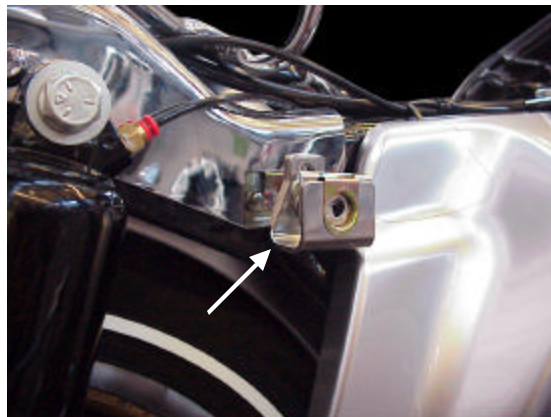
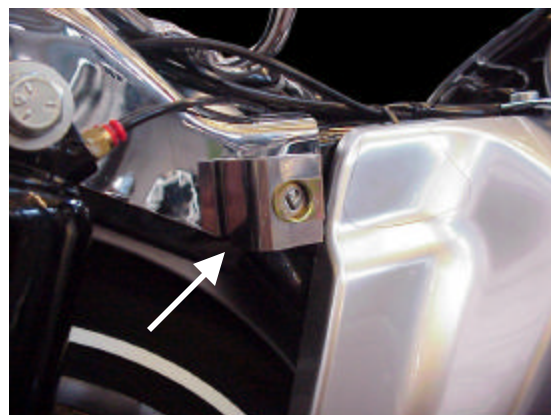

Figure 1: Bracket in its former position.
Figure 2: Bracket in its new position.
The orientation of the two front saddlebag brackets, part number 47449-97, was recently changed on standard production 2004 FLT family motorcycles. The brackets were rotated 90° (see Figure 2) to move the front of the saddlebags up and rearward. This provides additional clearance with the side covers.
2. Rotate the front bracket 90°, from the position in Figure 1 to the new position shown in Figure 2. The top of the "U" now faces forward.